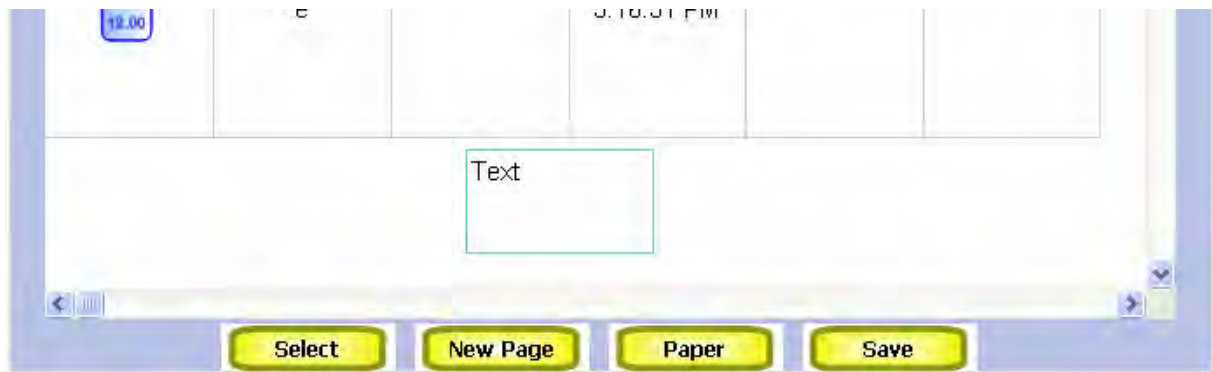

Figure 45 : Adding an addition text field
3. A text field is added to the report. (Figure 45).